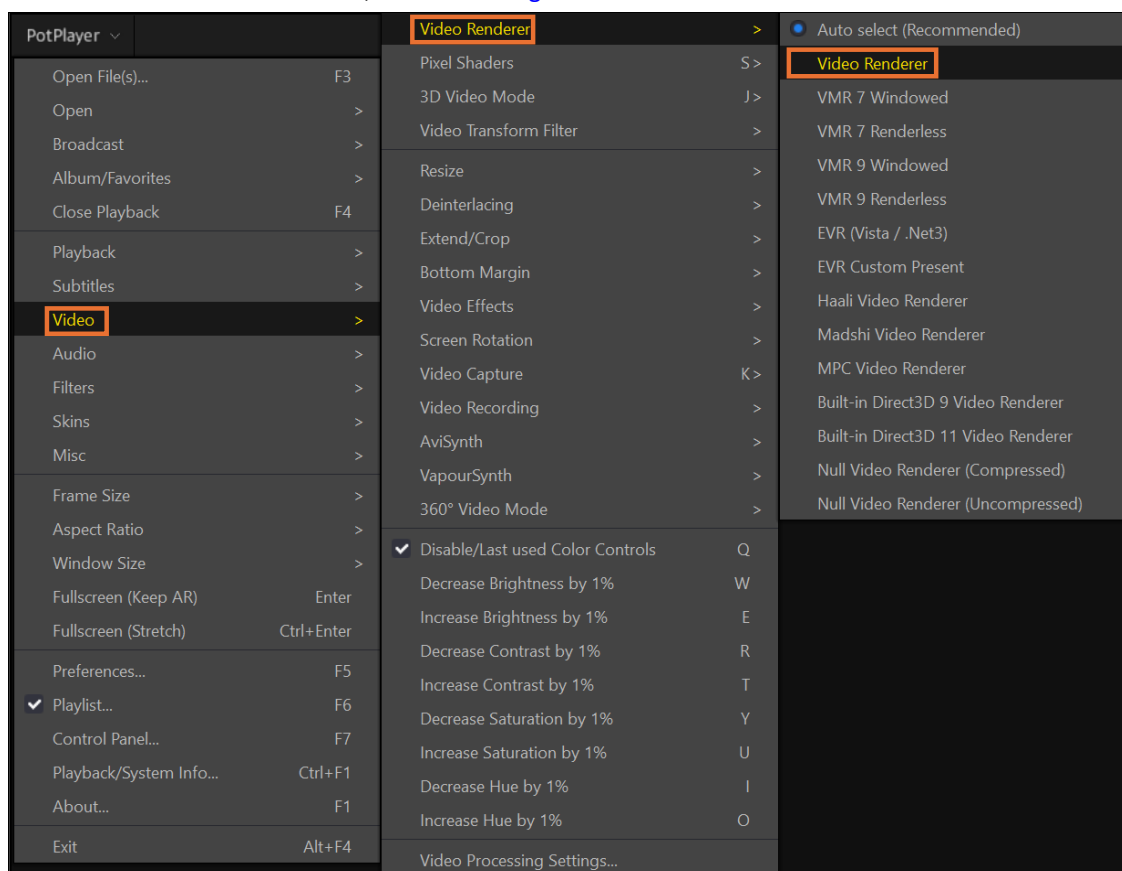

Figure 6.11. Video Renderer Option
- To change the Video Renderer option in PotPlayer, right-click on the video and select **Video > Video Renderer > Built in Direct3D 11 Video Renderer**, as shown in Figure 6.11.